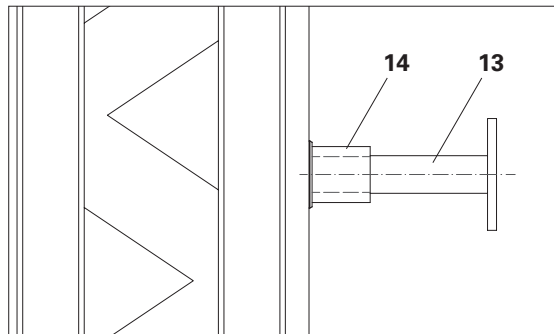

Fig. A5.07
3. Screw Anchor Sleeve M24 onto Anchor Positioning Stud M24 (**22**) and tie it to the reinforcement to secure the position. (Fig. A5.07)